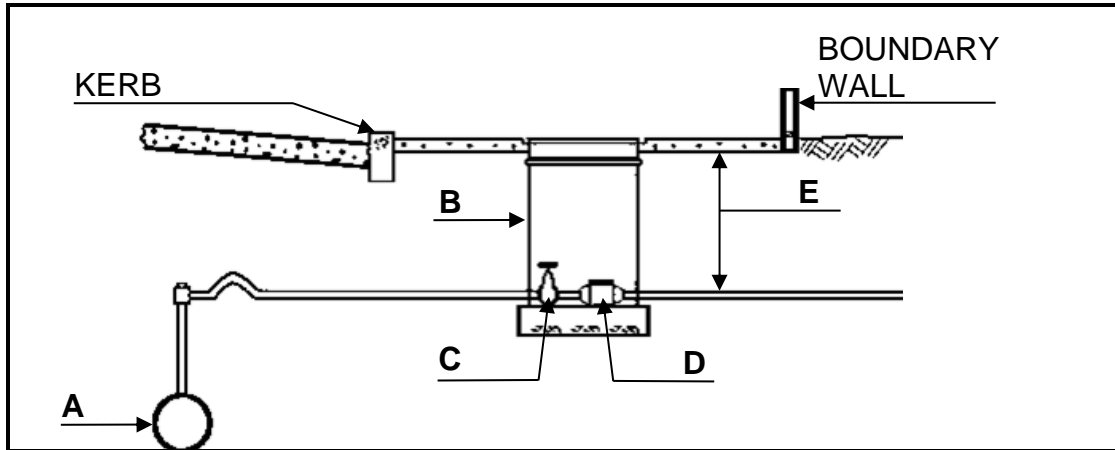

FIGURE 4.1
4.1 Answer the following questions with regard to the water supply system in FIGURE 4.1.